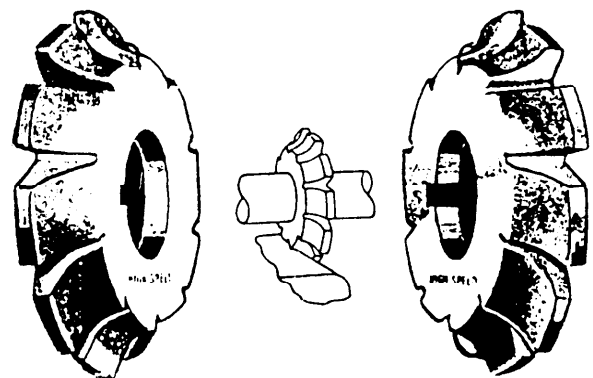

Figure 7-42.—Corner rounding cutter.
**CORNER ROUNDING CUTTER.**—Corner rounding cutters (fig. 7-42) are formed cutters that are used to round corners up to one-quarter of a circle.